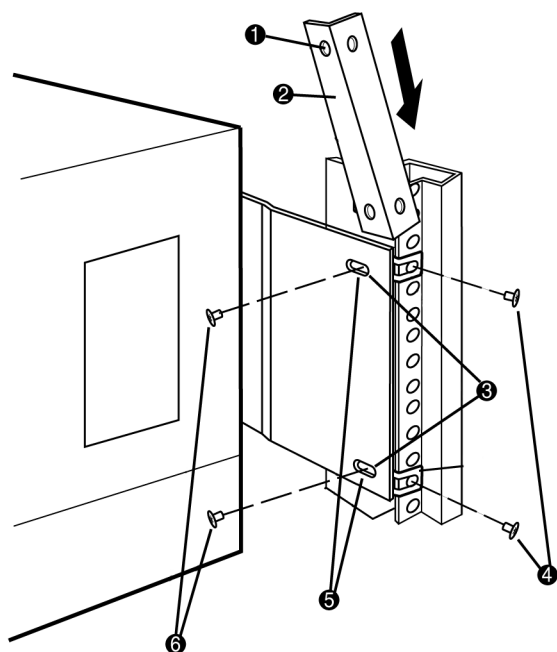

Figure 25 Securing the switch to the rack
2. Mount the switch in the rack (Figure 25):
- a. On one side at the back of the switch, position an angle bracket (2) so that the threaded holes (1) are against the slots (5) of the rear mounting bracket and the angled side face out.
- b. Insert the screws (6) through the rear mounting bracket slots into the threaded nuts of the angle bracket.
- c. Insert a second set of screws (4) through the angle bracket and the rail column into the sheet metal nuts on the back rail (3).